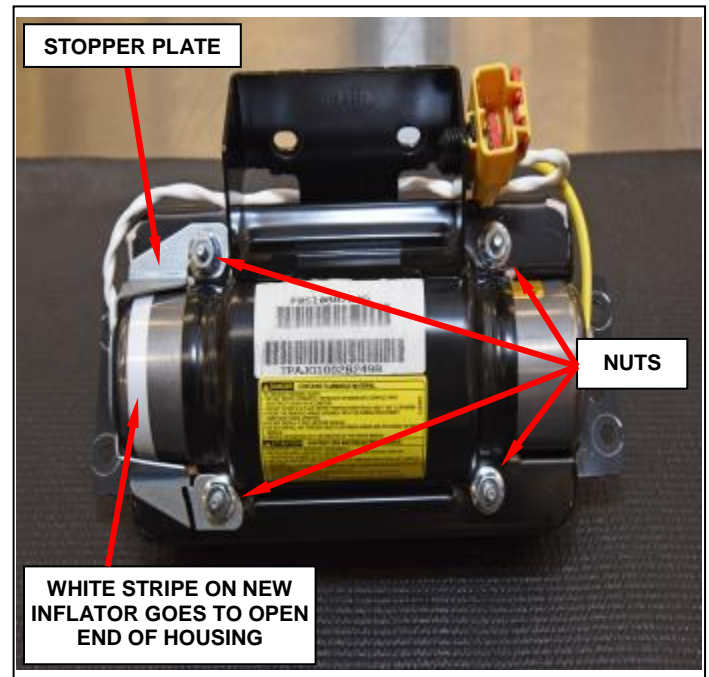

Figure 85 – Stopper Plate and Nuts
- i. Position the stopper plate to the airbag housing (Figure 85).
- j. Install the four **NEW** mounting nuts to the airbag housing and tighten to **53 in. lbs. (6 N·m)** (Figure 85).